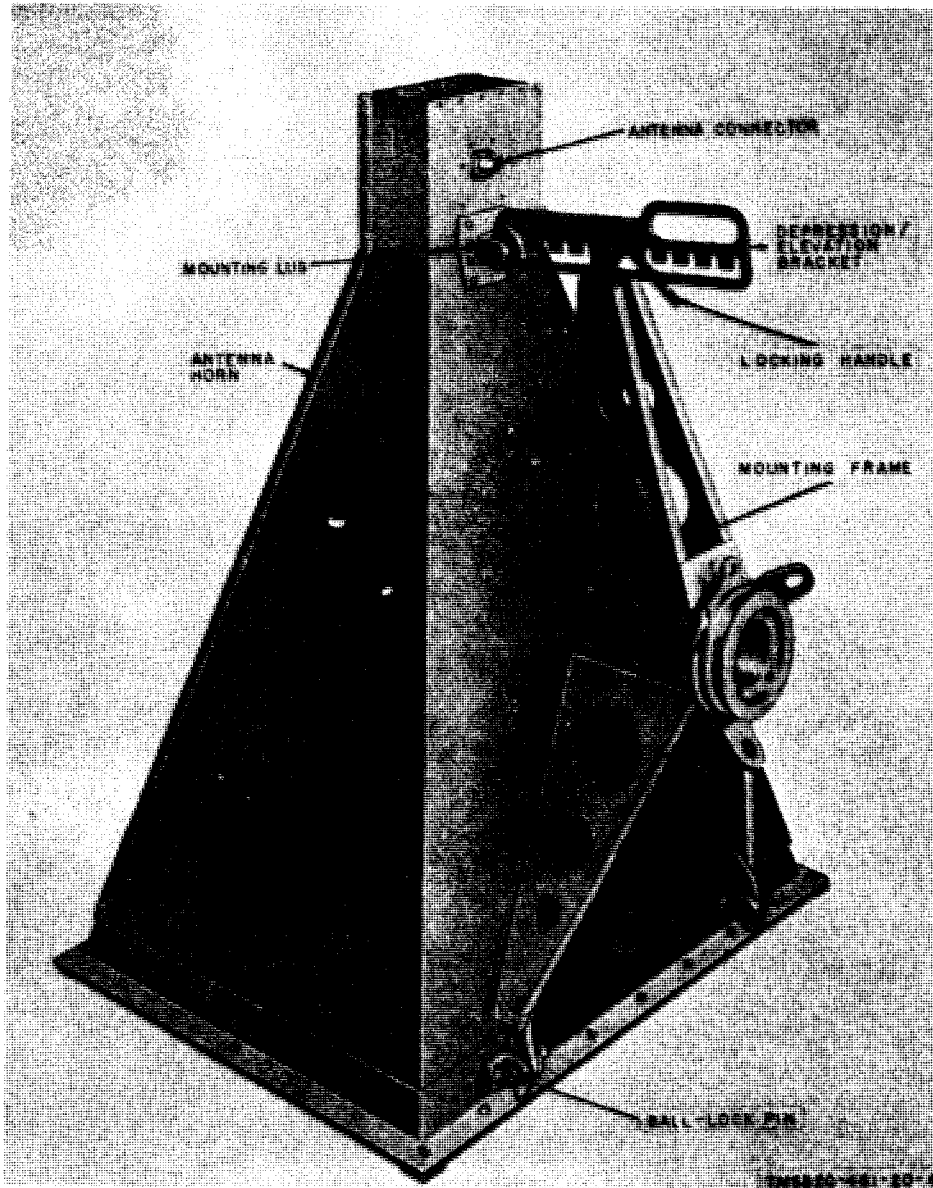

Figure 2-5. Antenna AT-903/G, location of components.
- (1) To detach the mounting frame from the antenna horn, pull the three ball lockpins from their holes (fig. 2-5).
- (2) Set the mounting frame on the antenna horn in the desired polarization. Align the holes in the legs of the mounting frame with the holes in the mounting lugs, and insert the ball lockpins.
b. Elevation and Depression Adjustment (fig. 2-5). Refer to the radio installation instructions, which should state the angle at which the antenna horn should be set. The depression/elevation bracket is slotted at 2° intervals; the zero (0) slot provides for the antenna to be parallel to the ground.
- (1) Loosen the locking handle.
- (2) Grasp the depression/elevation bracket; lift it to disengage the slot. Move the mounting frame to the proper slot for elevation or depression angle.
- (4) Tighten the locking handle.